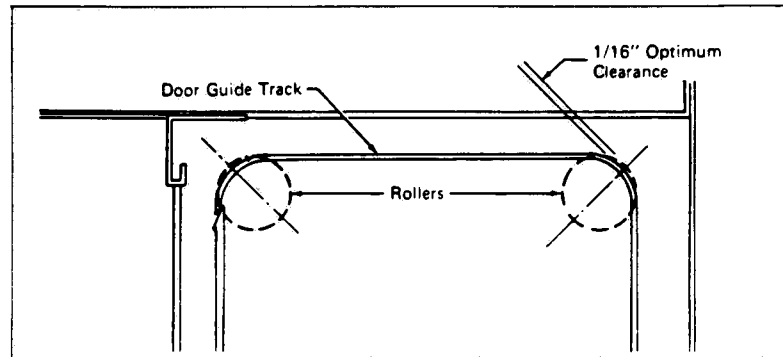
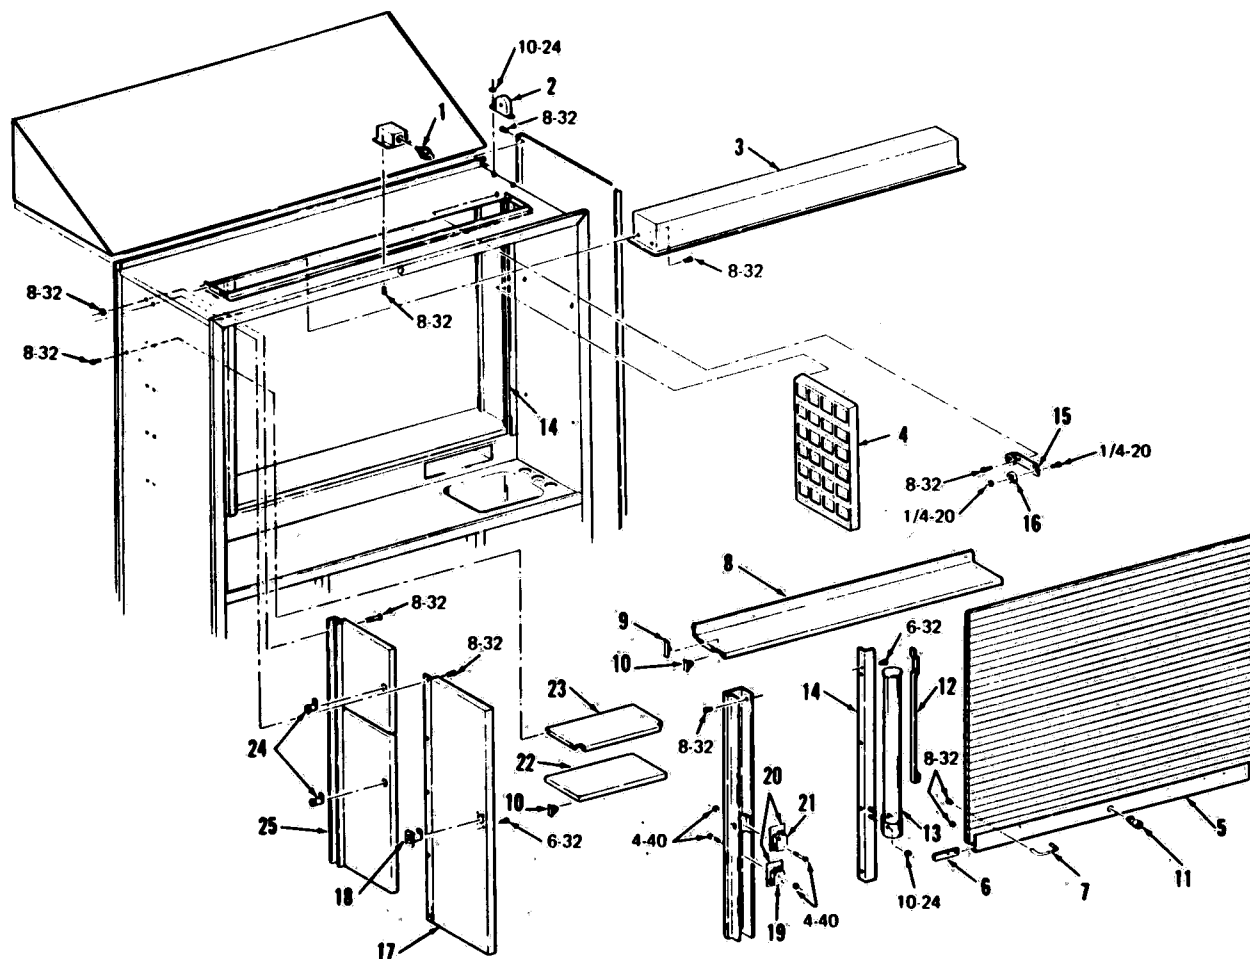

Figure 4-1. ROLLER POSITIONING.
Figure 5-1. UPPER SECTION COMPONENTS.
Replacement (Fig. 5-1)
Roller Adjustment (Fig. 5-1)
2. Compare the roller positions with those shown in Figure 4-1. If necessary, loosen the 1/4-20 hex head cap screw on each roller and reposition them as shown. Tighten the screws.
Counterbalance Replacement (Fig. 5-1)
Adjustment (Fig. 5-1)
4. Adjust the rollers so that they are spaced sufficiently to provide a slight lift on the door at the point where it becomes tangent to the curved portion of the track. To do so, the rollers should be positioned as shown in Figure 4-1.
1. Referring to Figure 5-1, remove the 6-32 screws that secure the right-hand door track (14) to the station.
3. Repeat steps 1 and 2 for the left-hand door track (14).
4. Remove roll-up door by sliding it up and over the rollers (see Figure 4-1).
Note: For complete illustration see Figure 5-1.
Upper Section Components Figure 5-1